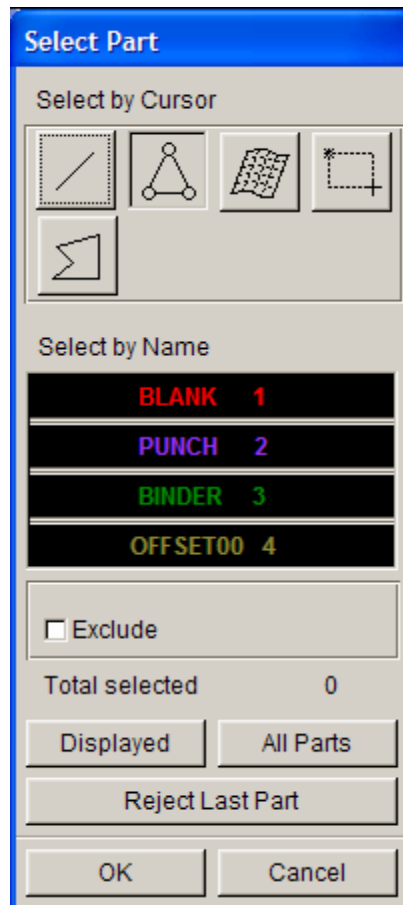

Figure 7.23 Select part dialog box
23. Select **BINDER** part from the SELECT PART dialog box illustrated in Figure 7.23.